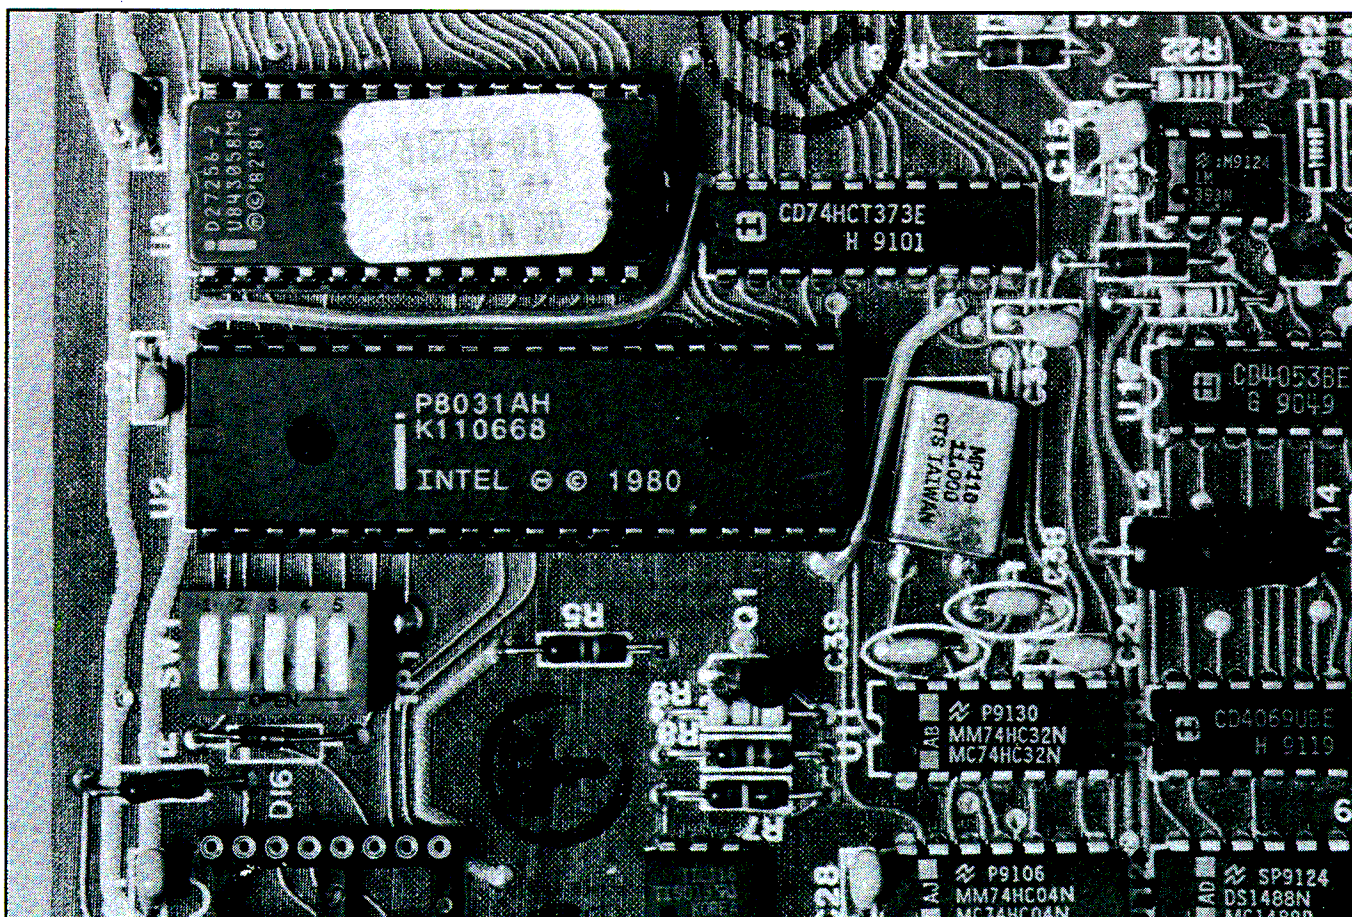

Figure 6. Main Board Software and Memory Identification for TLS-250 Eight-Tank Monitors
4. **Identify and Replace Main Board Software.** The main board software is contained in one EPROM located in the U3 position on the Eight-Tank main board (see Figure 6). To replace the software, proceed as follows:
- c. Locate U3 on the main board (see Figure 6).
4. **Identify and Replace Main Board Software.** The main board software is contained in one EPROM, located at position U3, and one RAM, which is installed in either U4 or U5 (see Figure 6).
- f. Locate U4 and U5 on the main board (see Figure 6).
4. **Identify and Replace Main Board Software.** The main board software is contained in one EPROM, located at position U4, and one RAM, located at position U3 (see Figure 6).
- c. Locate U4 on the main board (see Figure 6).
- f. Locate U3 on the main board (see Figure 6).